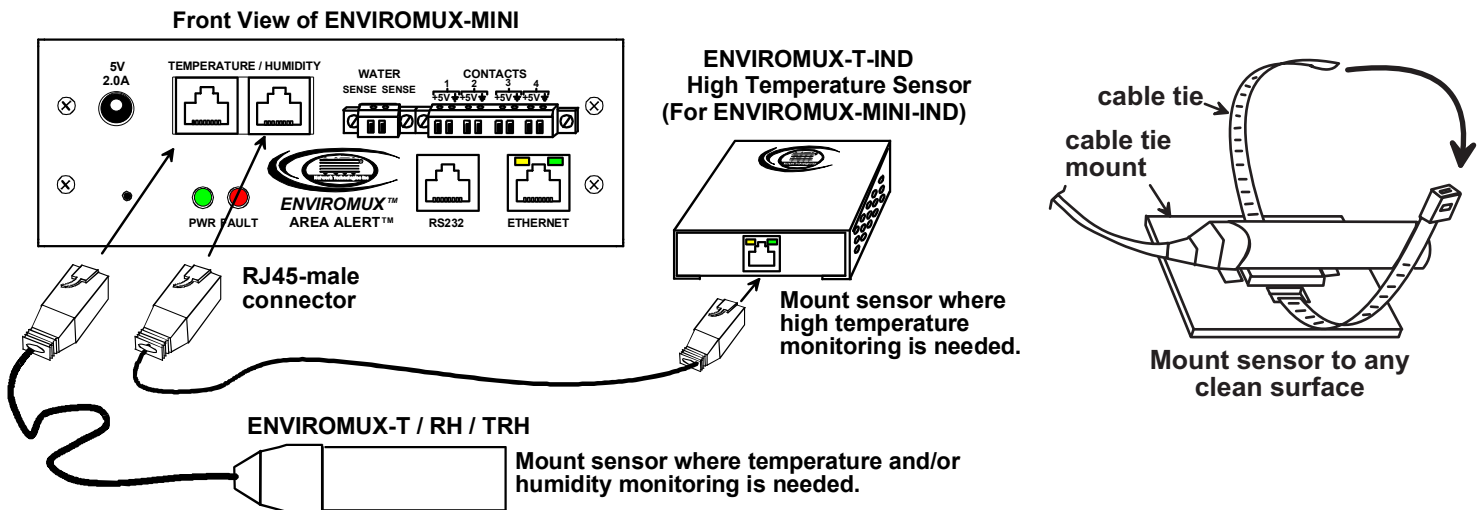

Figure 2- Connect sensors to ENVIROMUX-MINI and mount with a cable tie
1. Connect the desired sensors (ENVIROMUX-T, RH, or TRH- sold separately) to the available ports on the ENVIROMUX-MINI. Plug the RJ45 connectors to either of the two ports marked "TEMPERATURE/HUMIDITY". The ENVIROMUX-T, RH, or TRH sensors can be secured anywhere that the temperature and/or relative humidity need to be sensed. Secure the cable tie base (provided with each sensor) to a surface close to where the temperature and/or humidity needs to be monitored, and secure the sensor to the cable tie base with a cable tie. Make sure the surface to which the cable tie base will be applied is clean or the adhesive on the cable tie base will not adhere to it. (see Fig. 2).